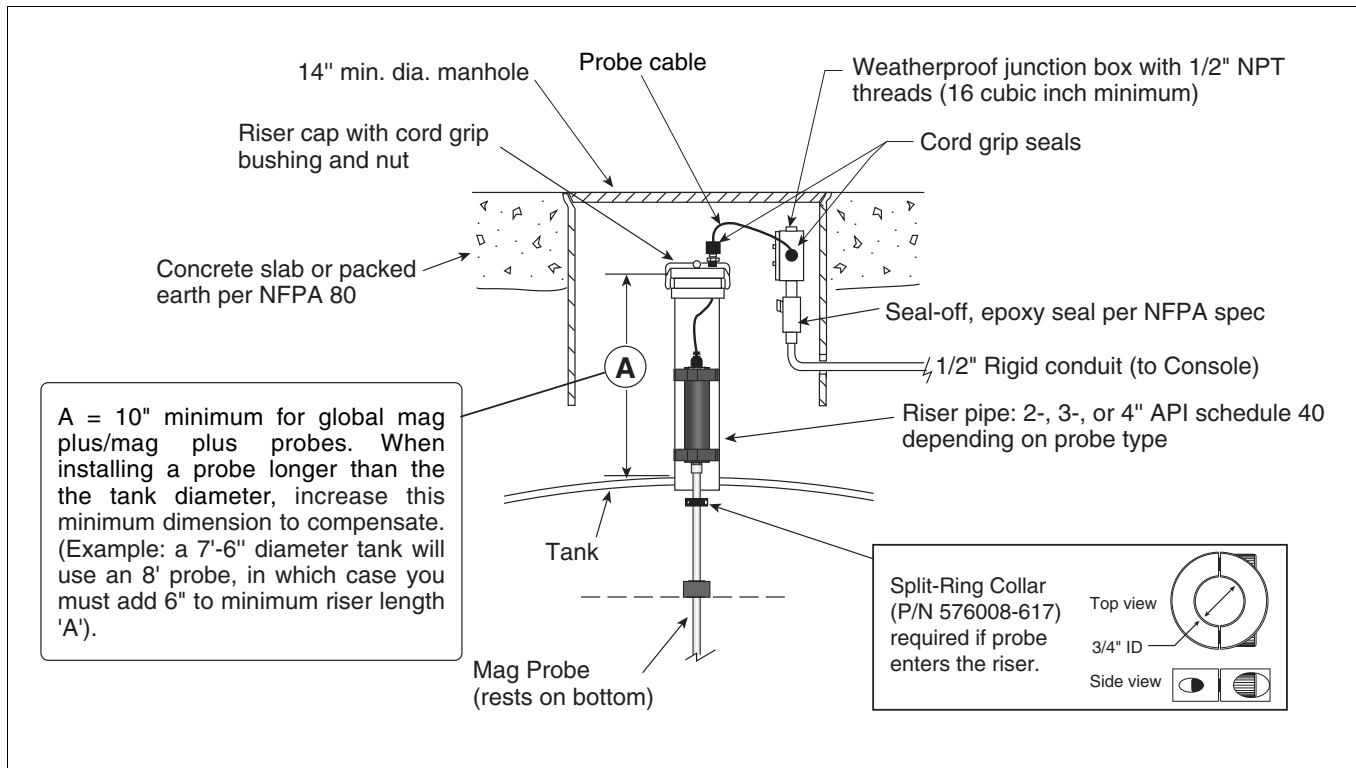
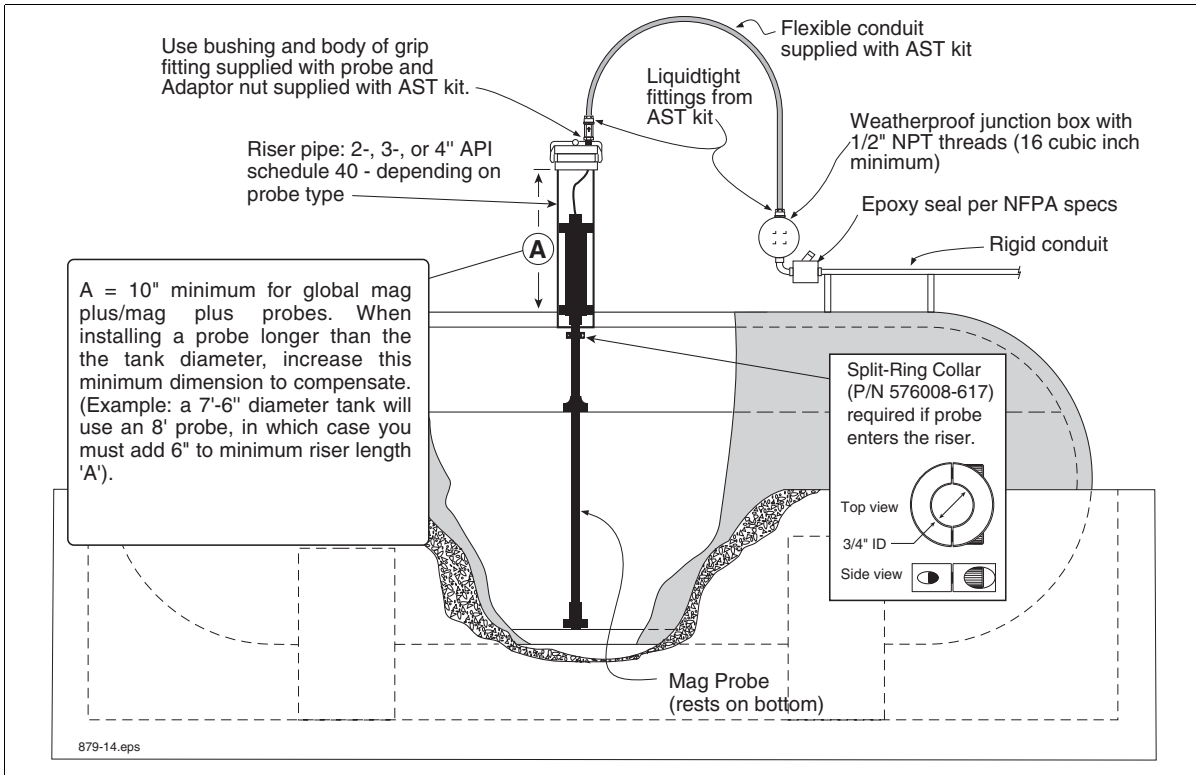

Figure 14. UST Probe Installation - Dedicated Riser
Figure 15. AST Probe Installation - Dedicated Riser
4. Gently slide the float(s) to the bottom of the probe shaft before raising the probe. Carefully lower the probe into the riser pipe until the boot rests on the bottom of the tank [See Figure 14 for UST installation or Figure 15 for AST installation].